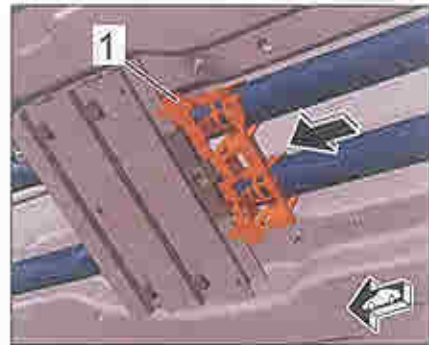

Figure 16
- 5.3 Press in holder for TPM control unit ⇒ *Figure 16-1-* on the coolant pipes, slide it forward and clip it in ⇒ *Figure 16-arrow-*.